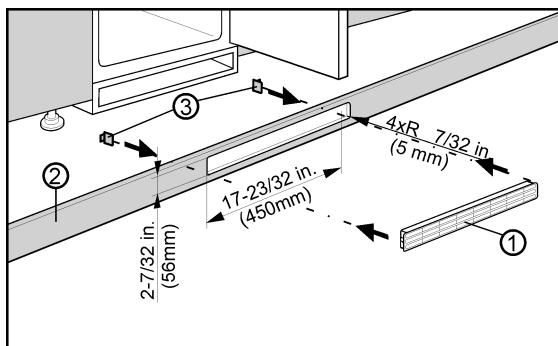

Fig. 7
Ventilation from underneath through the floor of the kitchen cabinet can be set up with the supplied ventilation grid Fig. 7 (3) or an air vent with at least a 31 in2 (200 cm2) cross section area. If you use the supplied ventilation grid Fig. 7 (1) please proceed as follows:
- Insert the ventilation grid Fig. 7 (1) into the cut out in the cabinet floor Fig. 7 (2).
- Slide the snap connectors Fig. 7 (3) into the grid from behind until the hooks touch the cabinet floor.